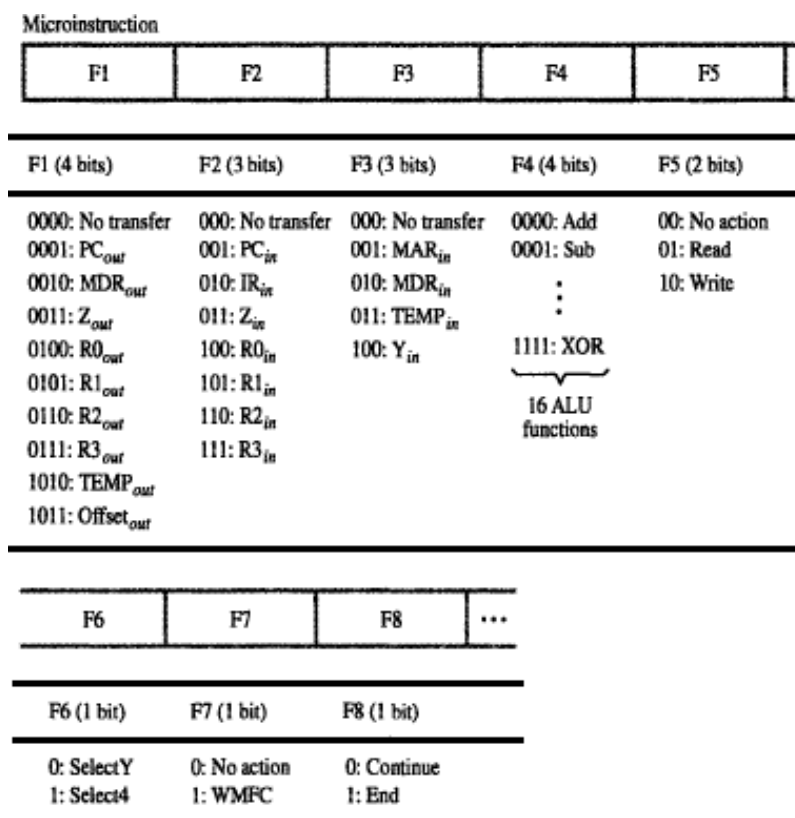

Figure 7.19 An example of a partial format for field-encoded microinstructions.
- 2) Many signals are mutually exclusive. E.g. only 1 function of ALU can be activated at a time. For ex: Gating signals: IN and OUT signals (Figure 7.19).